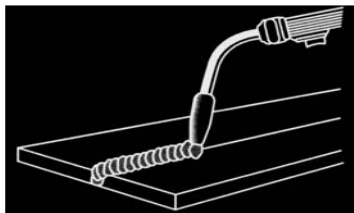

Figure 15. Flat Position
1. The FLAT POSITION (Figure 15) is the easiest of the welding positions and is most commonly used. It is best if you can weld in the flat position if at all possible as good results are easier to achieve.